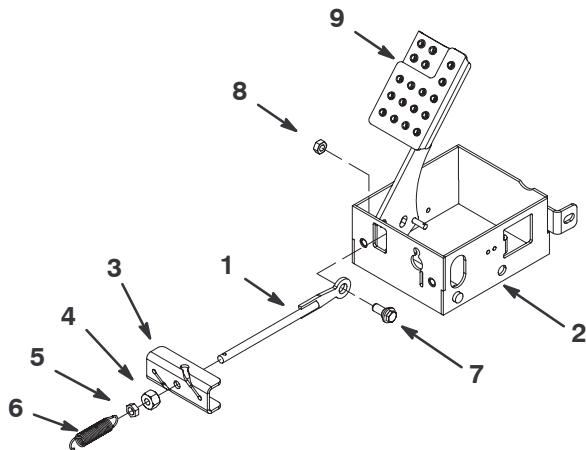

Figure 2
1. Install the eyelet end of the brake rod into the pedal box (Fig. 2) with the flush side toward the pedal.
2. Install the threaded end of the new brake rod into the equalizer plate (Fig. 2).